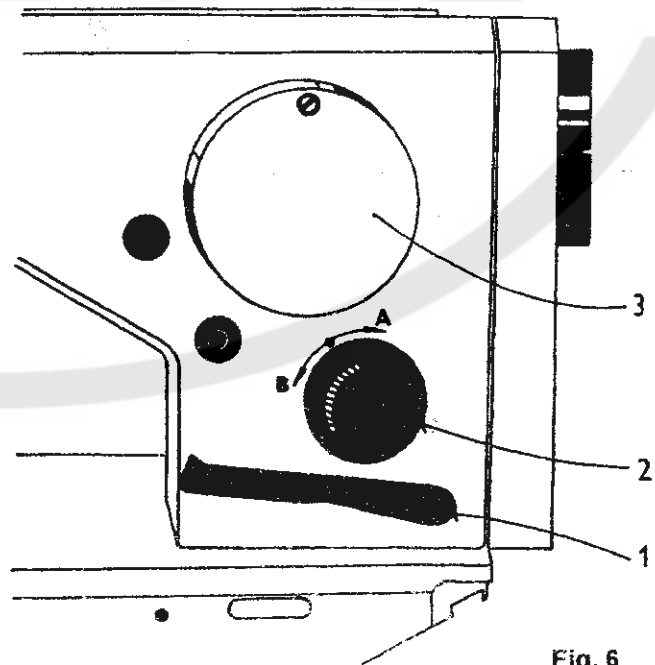
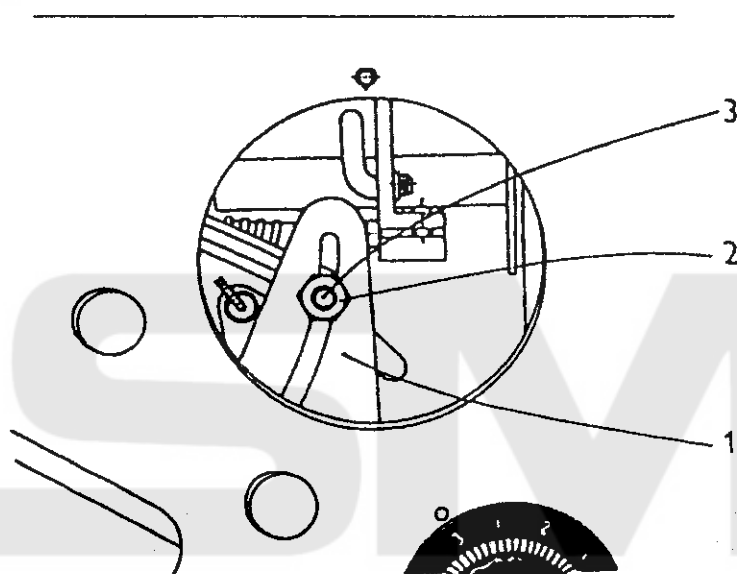

Fig. 6
Fig. 7
1. Stitch length adjustment (Fig. 6)
2. To adjust the zigzag stitch width (Fig. 6, 7)
Before any adjustment of the zigzag stitch width, the machine must be stopped with the needle outside the sewn work. Consult the List of Equipments, mount the cam required for the chosen pattern, and adjust the pattern width within the range prescribed as admissible for the cam in question. The stitch width is steplessly adjustable. To adjust it, remove the cover (3, Fig. 6) on the lever (1, Fig. 7) controlling the movement of the needle bar holder, and loosen with a wrench the nut (2) on the bolt (3) on which is mounted the tie rod of the needle bar holder. By displacing the bolt in the notch of the lever downwards, the pattern width is narrowed, by displacing it upwards, it is increased. When increasing the stitch width to its maximum check that the needle does not collide with the throat plate, and fix the chosen position by means of the bolt with the nut. Be sure that the adjusted pattern width lies within the limits specified for the pattern in question in the List of Equipments. With the two needle version, adjust the stitch width so as to let sufficient play for the needles passing through the groove provided in the throat plate.
17. To adjust the lever and the roller of the zigzag stitch mechanism (Fig. 7; Tab. 16)
The adjustment is to be carried out with the adjusting cam mounted. Remove the cover (12, tab. 16) of the zigzag stitch mechanism and turn the handwheel until the needle bar with the needle reaches its bottom position. Loosen the nut (2, Fig. 7) on the screw (3) on which is mounted the tie rod of the needle bar holder, displace the screw (3) in the slot of the lever between the two end positions and check whether the needle moves in the throat plate groove. In positive case, remove the plug (26, tab. 16) on the rear side of the machine arm, loosen the screw (6) on the lever (5), and adjust with a screwdriver the complete roller by its repeated turning and by displacing the screw (3, Fig. 7) until you find the position in which no displacement of the needle in the groove of the throat plate takes place, then retighten the screw (6, tab. 16), and mount the cover (12).